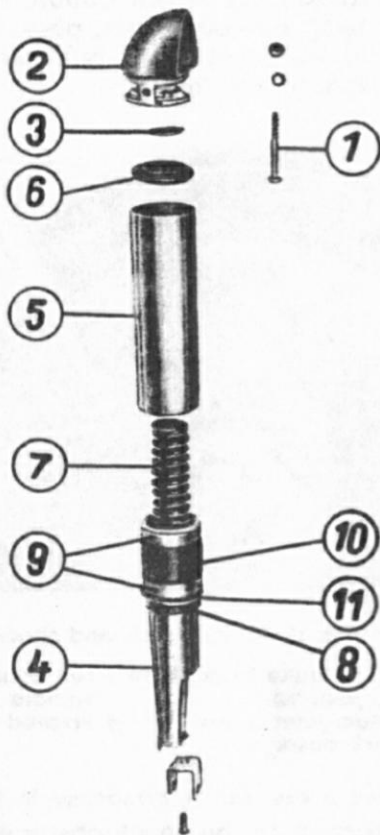

Fig. 27: Shock absorber, dismantled
c) Dismantling the shock absorber (Fig. 27):
1. Unscrew hexagon head nut from the lens head screw (Fig. 27/1) on the telescopic leg head (Fig. 27/2) and remove the lens head screw from the telescopic leg. Take off telescopic leg head; do not loose the sealing disc (Fig. 27/3).
2. Push the lower part of the telescopic leg (Fig. 27/4) through the sliding tube (Fig. 27/5) so the top rubber stop ring (buffer ring 43/29, 5/8) (Fig. 27/6) falls out. Remove pressure spring (Fig. 27/7) from the telescopic leg (Fig. 27/4). Remove bottom rubber stop ring 41/34/6 (Fig. 27/8) from telescopic leg. Replace 2 plastic guide rings (Fig. 27/9), lubricator felt pad (Fig. 27/10) and oil scraper ring (Fig. 27/11) in case of excessive wear.
Assemble in reversed order of disassembling. Fit rubber buffer ring (Fig. 27/6) and sealing disc (Fig. 27/3) before mounting the telescopic leg head.